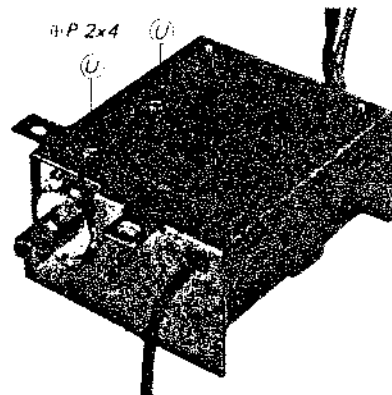

Fig. 2-18
4. Remove the two screws (⊕P 2x4) marked (U) in Fig. 2-18.